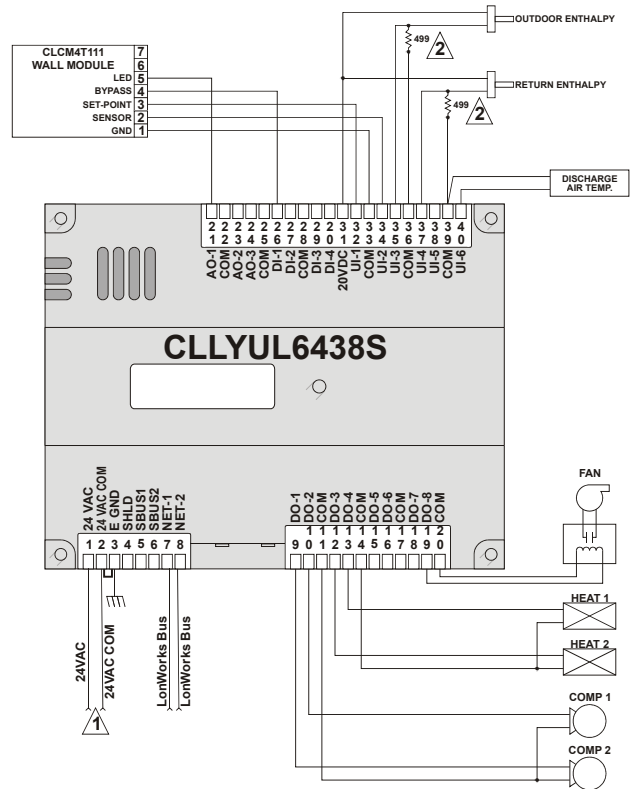

Fig. 18. Controller wiring diagram (CLLYUL6438S shown) for typical AHU application
- Typical controller wiring for AHU application (see Fig. 18).